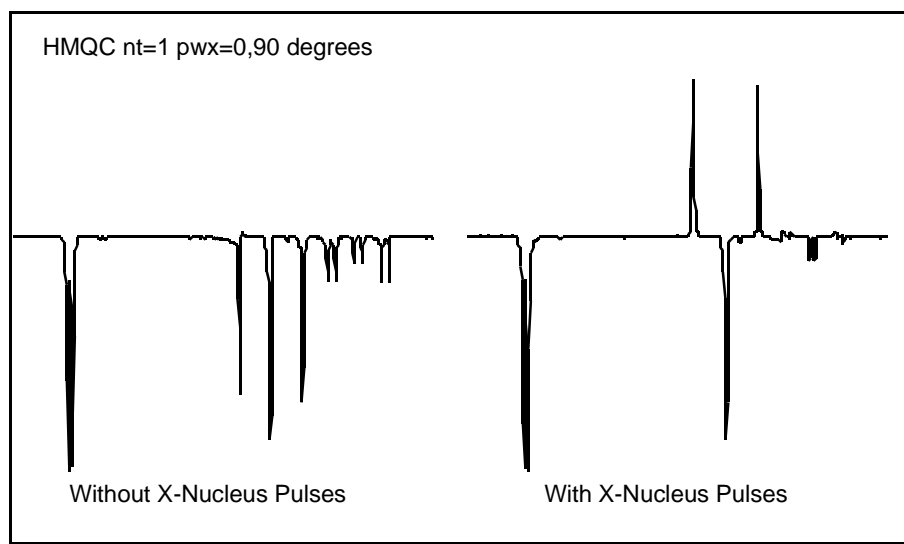

Figure 47. HMQC Without and With X-Nucleus Pulses
Two spectra are collected. In the first, no X-nucleus pulses are used (**pwx=0**), so a normal spectrum should appear (inverted); in the second, X-nucleus pulses are used, and if the value of **pwx** is correct, the ^{13}C satellites of the $^{13}\text{CH}_3\text{I}$ should appear right side up, as seen in **Figure 47**. If the two spectra are identical, you have either
- Because the pulse sequence involves spin echoes whose timing may not be perfectly adjusted, it may not be possible to perfectly phase the first spectrum; the spectrum on the left in **Figure 47** is typical. If the spectrum phases poorly, recheck the proton 90° pulse width.